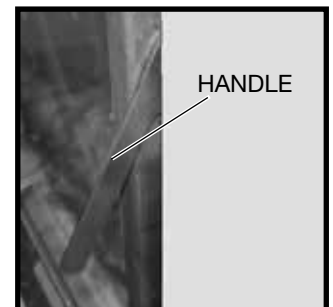

Figure 5: Safety barrier screen. Figure 6: Accessing handle. Figure 7: Handle.
1. Remove safety barrier screen (Figure 5) by prying the top portion of the screen toward you, then lift the screen from its tabs (inset) located at the base of the door frame.